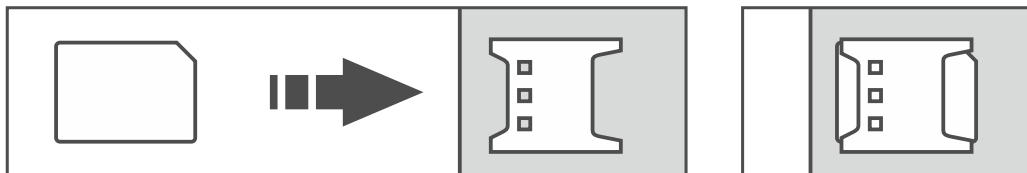

Fig. 8. Installing the nano-SIM card.
2. Insert the SIM card / cards into the socket / sockets (Fig. 8).